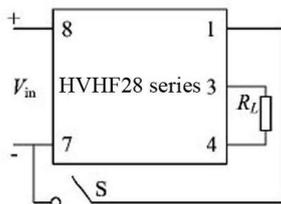
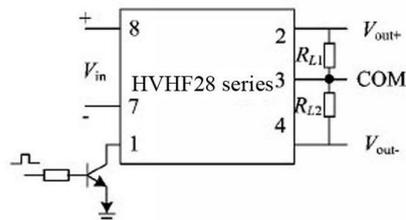

Fig. 9 Connection diagram for single output inhibit
Fig. 10 Connection diagram for dual inhibit
(2) Connection diagram for inhibit (Fig.9, Fig.10)